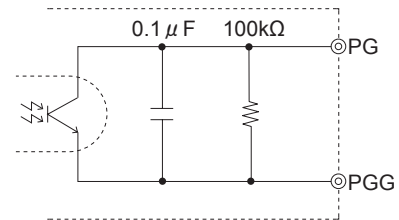

Fig.3.13 Internal circuit of PG
■PG circuit is designed as shown in Fig.3.13. Sink current of PG is 1mA max.